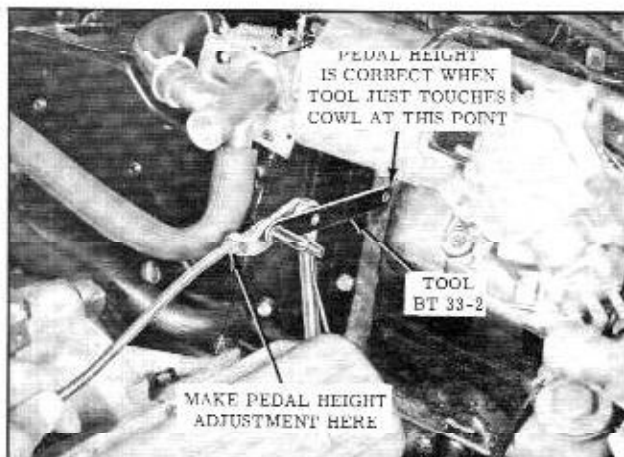

Fig. 3-130 Checking Pedal Height
13. With the engine off, check and adjust the pedal height if necessary with Tool BT-33-2 as shown in Fig. 3-130.
The pedal height is adjusted by using Tool BT-33-2. Place the tool in position (with the hole nearest the pin) over the T.V. bell crank pin. Swing the gauge in an arc and adjust the length of the accelerator lever rod until the end of the gauge just contacts the closest surface of the cowl. (Fig. 3-130)